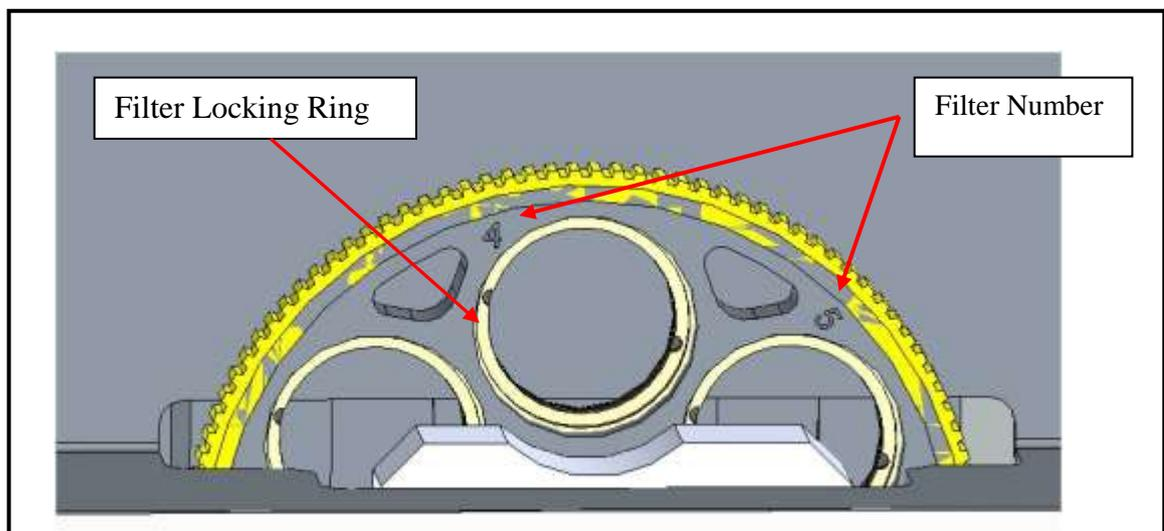

Fig 3 – The LumenPro200 Filter Wheel co
6. Turn the filter wheel until the desired filter position is reached. The filter position is indicated in by the filter number which is displayed on the top left of the filter hole. (Fig 3)